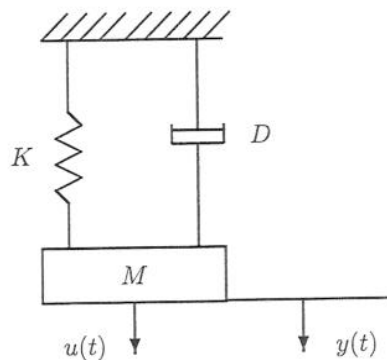

Figure 1.1
1. (a) Figure 1.1 shows a mass-spring system where  $K$ ,  $D$  and  $M$  have the standard interpretation. The signal  $u(t)$  represents an applied force and  $y(t)$  the displacement from the rest position.